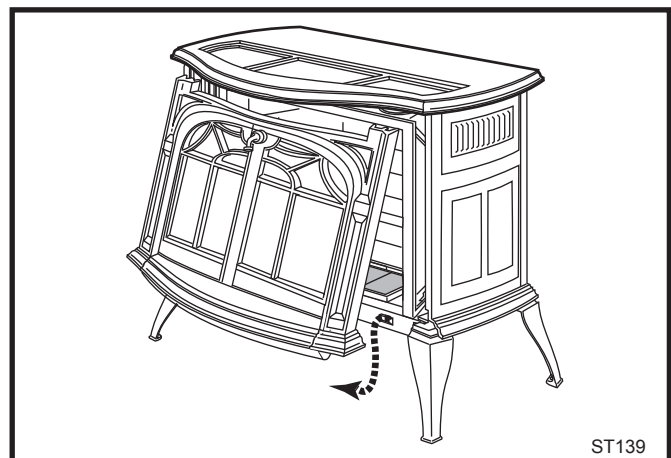

Fig. 4 Remove the front plate.
2. Remove the Front Plate. Grasp one side and the bottom, and lift the front plate as a unit (the control door attaches to the stove front). Swing the bottom edge out and away from the stove body, (Fig. 4)